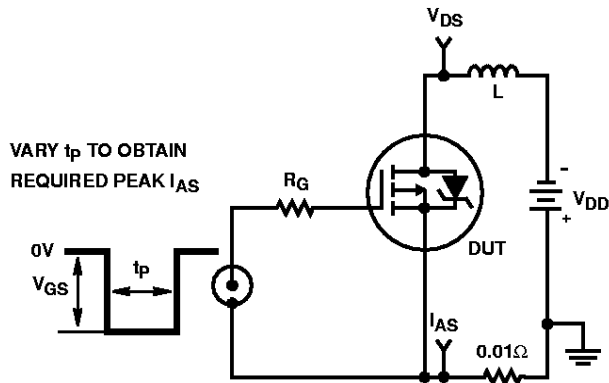

FIGURE 15. UNCLAMPED ENERGY TEST CIRCUIT
- $V_{DD} = 50\text{V}$ , starting  $T_J = 25^\circ\text{C}$ ,  $L = 9.8\text{mH}$ ,  $R_G = 25\Omega$ , peak  $I_{AS} = 11\text{A}$ . See Figures 15, 16.